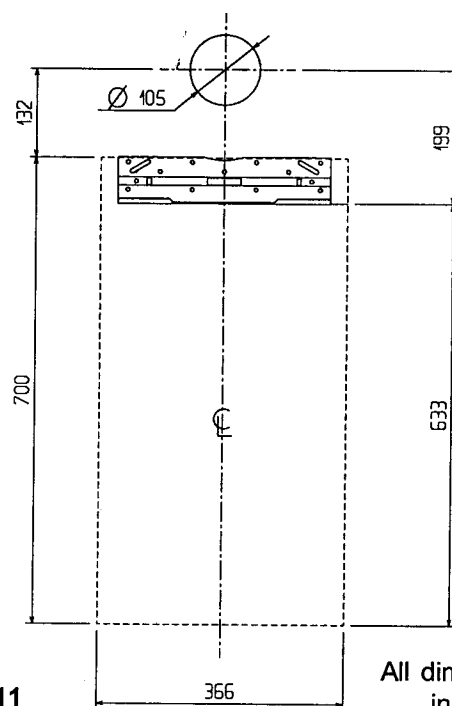
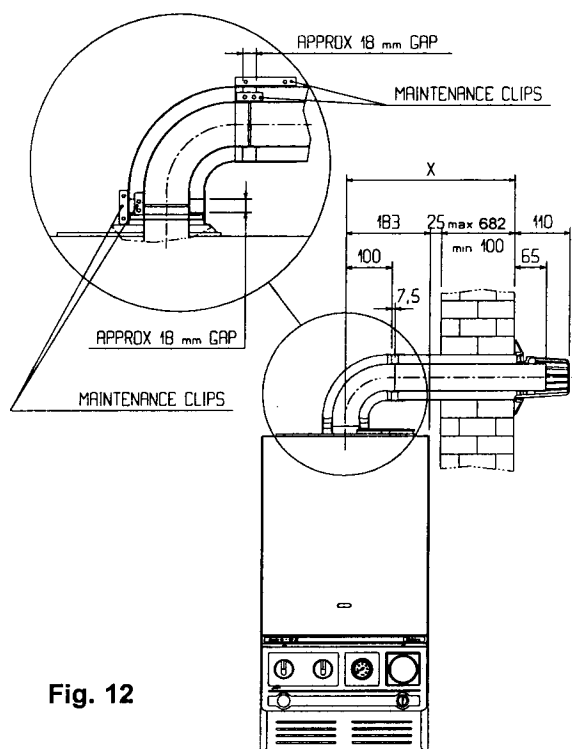
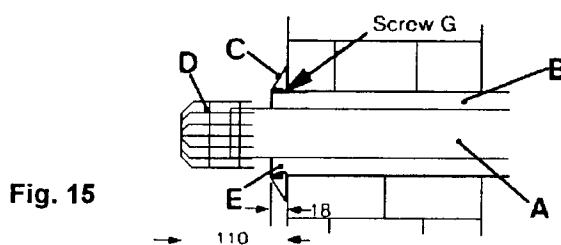
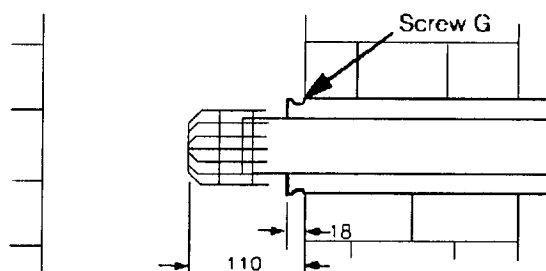

Fig. 11
Fig. 12
Fig. 15
Fig. 16
5.4 MOUNTING THE APPLIANCE (Ref. Fig.11)
Alternatively, position bracket and holes to dimensions in Fig. 11.
Refer to fig. 11 and figs. 12 - 16 for relevant dimensions for locating the hole. Where it is remote from the boiler take special care to ensure the hole is at the correct level so that the finished flue is horizontal.
5.5.1 Refer to figures 12 - 16
5.5.3 Hang the boiler on the bracket. Adjust the boiler sideways to its correct position. Locate the small maintenance clip on to the flue elbow (figs. 12 & 13) and assemble onto the flue outlet on the top of the boiler. Twist the flue bend to the outlet direction required, and tighten the maintenance clip to secure the flue bend in place. Carefully level across to check that the hole through the wall is 1° lower than the flue bend.
5.5.4 Measure carefully from the actual face of the outside wall to the centre of the flue bend. (Dimension X on Figs 12 & 14)
NOTE: The two tubes must be separated by removing screw G (fig. 15) before cutting. The outer air tube should also be shortened by the same amount to allow a gap for easy working (see inset on fig. 12).
5.5.9 Ensure inner and outer terminal tubes are firmly fitted together with screw G (Fig. 15). Push the terminal tubes through the wall until the face of the outer tube protrudes 18mm from the face of the wall (Fig. 15). The terminal grill (D) will then protrude 110mm from the wall face.
5.5.16 Check also that the outer end of the flue projects as indicated in Fig. 15 or Fig. 16 if installed in a S.E. duct.
5.5.17 Referring to Fig. 12 fit the large maintenance clips into position and secure the clip screws.
5.5.19 Seal the peripheral gap around the outer tube with cement or mastic and slip the cosmetic flexible plastic collar (Fig. 15) item C) into groove on the pipe.
5.5.21 Assemble the large and small maintenance clips as shown in Fig. 12.
- 5.5.29 Referring to Fig. 12 fit the large maintenance clip into position and tighten clip screws.
- 5.5.32 Subtract 97mm from the dimension and cut the outer tube to this length. NOTE: The two tubes must be separated by removing screw G Fig. 15 before cutting.
- 5.5.39 Referring to Fig. 12 fit the large maintenance clip into position and secure clip screws.